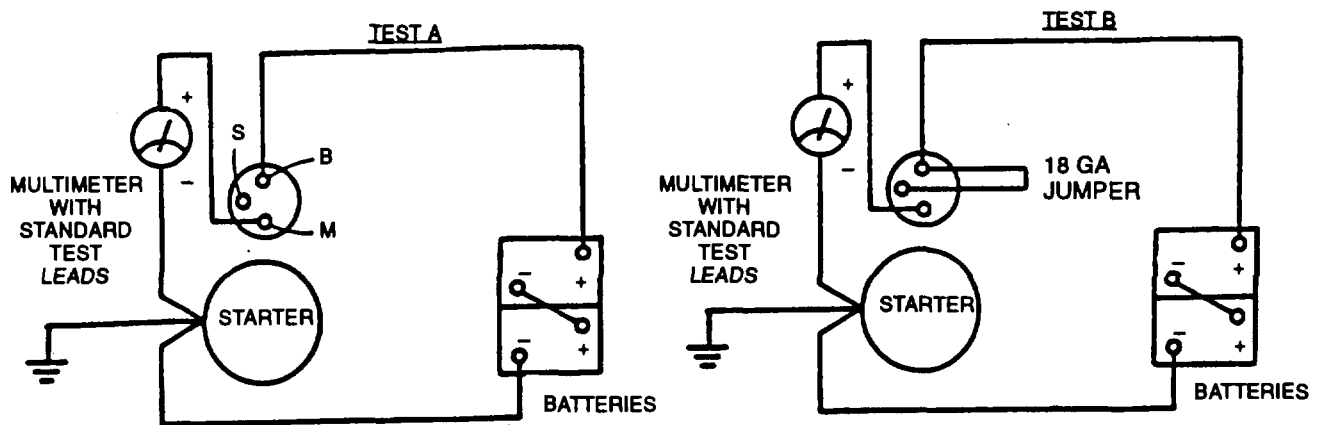

FIGURE 3-18. Starter Solenoid Test Circuit
- b. Set multimeter for DC volts, and connect as shown in FIGURE 3-18, Test A. If voltage is indicated solenoid is defective.
- c. Momentarily connect a jumper as shown in FIGURE 3-18, Test B. Multimeter should indicate battery voltage and starter should crank the engine. If multimeter does not read battery voltage, the solenoid is defective. If multimeter indicates battery voltage, but starter does not operate, starter is defective.